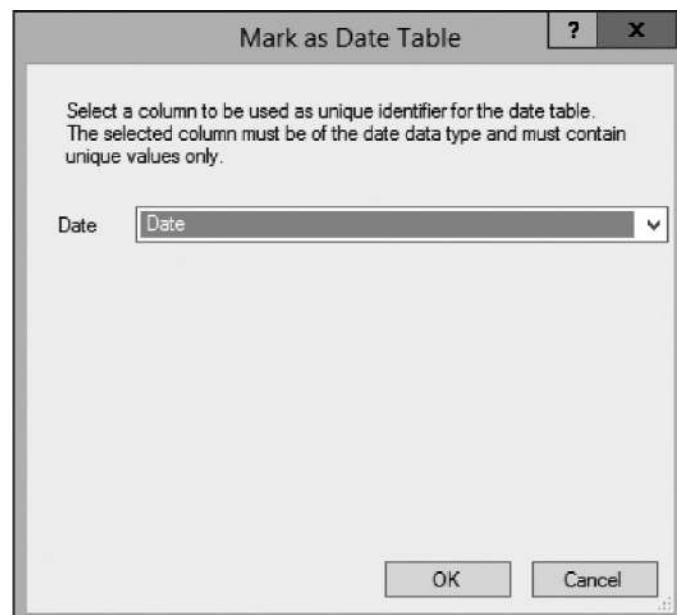

Figure 9-17 The Mark as Date Table dialog box
6. Make sure the Time table is selected, and then select Table | Date | Mark As Date Table from the main menu. The Mark as Date Table dialog box appears, as shown in Figure 9-17.